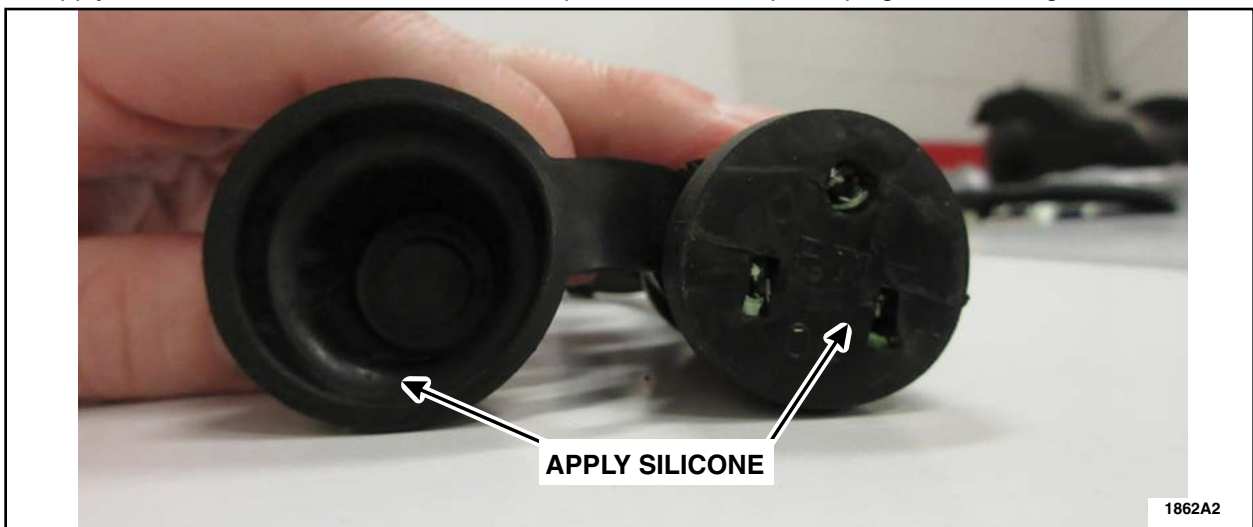

FIGURE 20
2. Apply Motorcraft silicone sealant TA-32 or equivalent to the cap and plug end. See Figure 20.